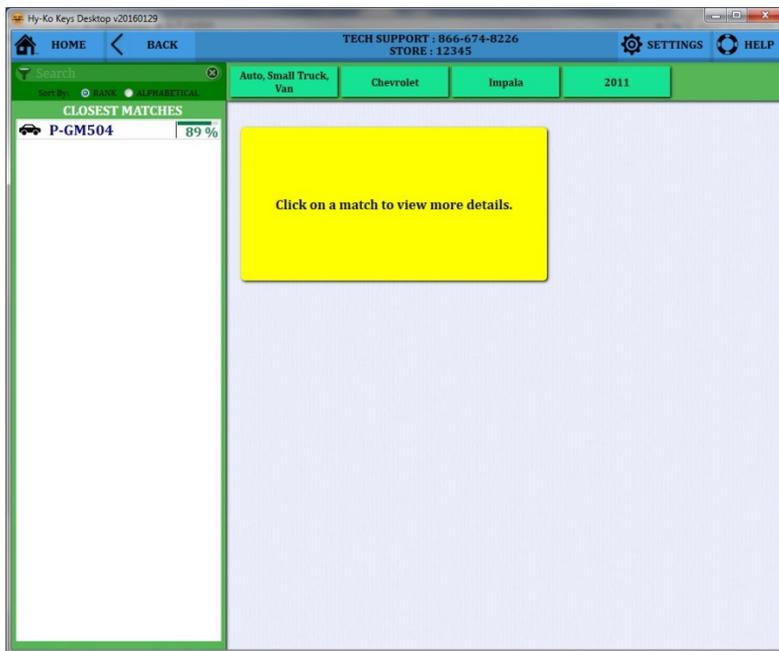

fig. 105
- Your list of possible keys for the vehicle chosen will be shown at the left (see fig. 105).